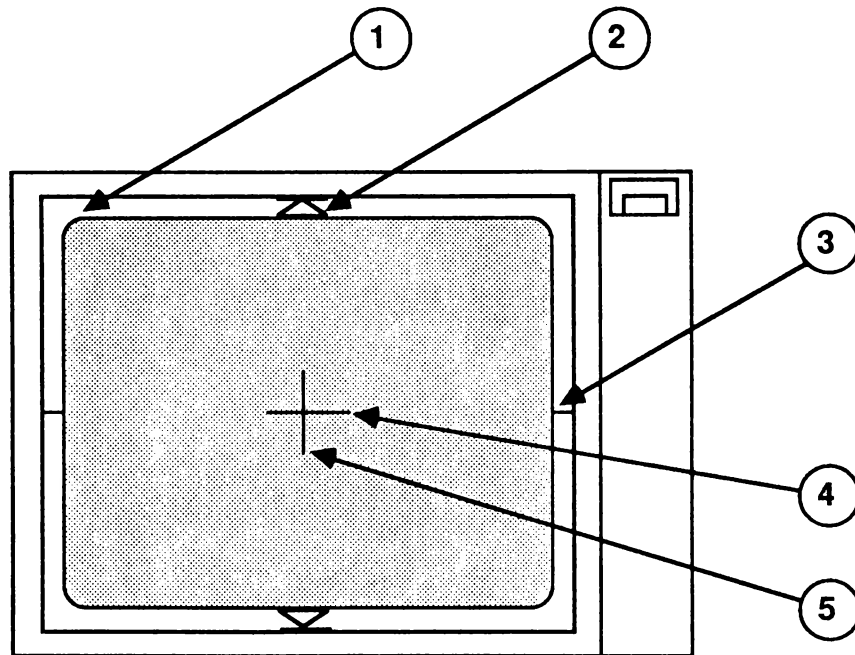

FIGURE 3
- a) On the edge of the bezel (the movable part that holds the CRT and tilts up and down - Figure 3, #1), measure half way down from the top (approximately 4 1/4 inches) and make a pencil mark on each side of the bezel (see Figure 3, #3).
- b) Take the flexible ruler and put each end of it on the marks on the bezel. Push the center of the ruler onto the screen and make a 2-inch line on the center of the screen (see Figure 3, #4).
- c) Next, find the two molded markings on the top and bottom of the bezel that look like triangles (see Figure 3, #2). These lines mark the vertical center of the screen.
- e) Make a vertical line along the edge of the ruler (see Figure 3, #5); it should intersect with the horizontal line you drew earlier, resulting in a cross (+) on the screen.